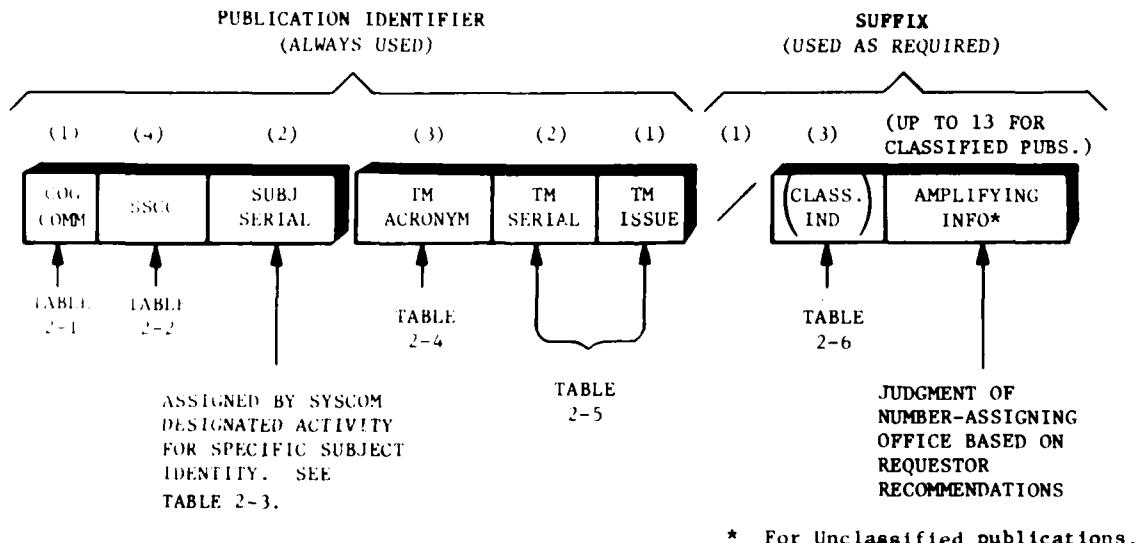

Figure 1-6. TMINS Component Code Sources
1.6.1 TMINS CODE TABLES. Figure 1-6 illustrates the assembled TMINS and identifies the code source in Section II of this guide for each component of the TMINS.